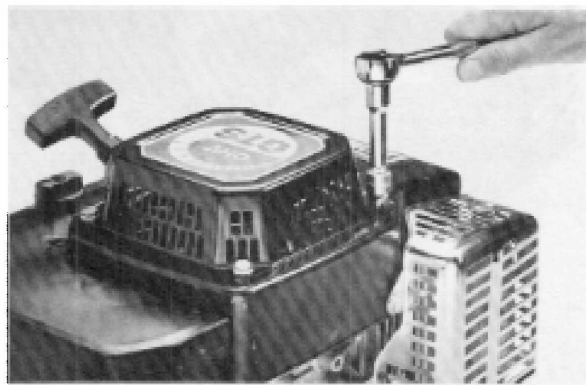

Figure 3-29
1. Remove the four screws retaining the starter to the blower housing. See Fig. 3-29. Note the orientation of the recoil rope for proper reassembly.